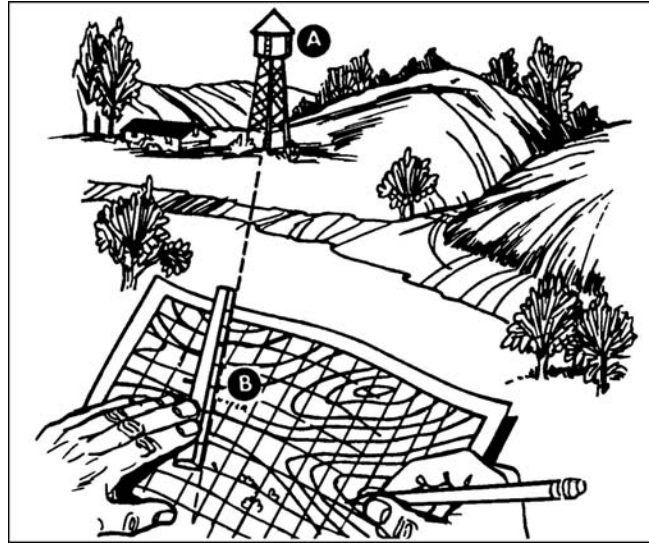

Figure 071-329-1015-2. Resection without a compass
2. Perform resection without a compass (figure 071-329-1015-2).
- a. Orient your map as closely as you can, using one of the ways you've learned for finding direction: compass, sun, watch, or stars. Look for some feature, such a water tower (figure 071-329-1015-2, Point A), that you can also find on the map. Put a ruler or straight edge on the map, and place it next to the water tower symbol (figure 071-329-1015-2), Point B) on the map. Align the straightedge so that it points directly at the real water tower. Draw a line along the straight edge or ruler. The line will cross the symbol for the water tower on your map.